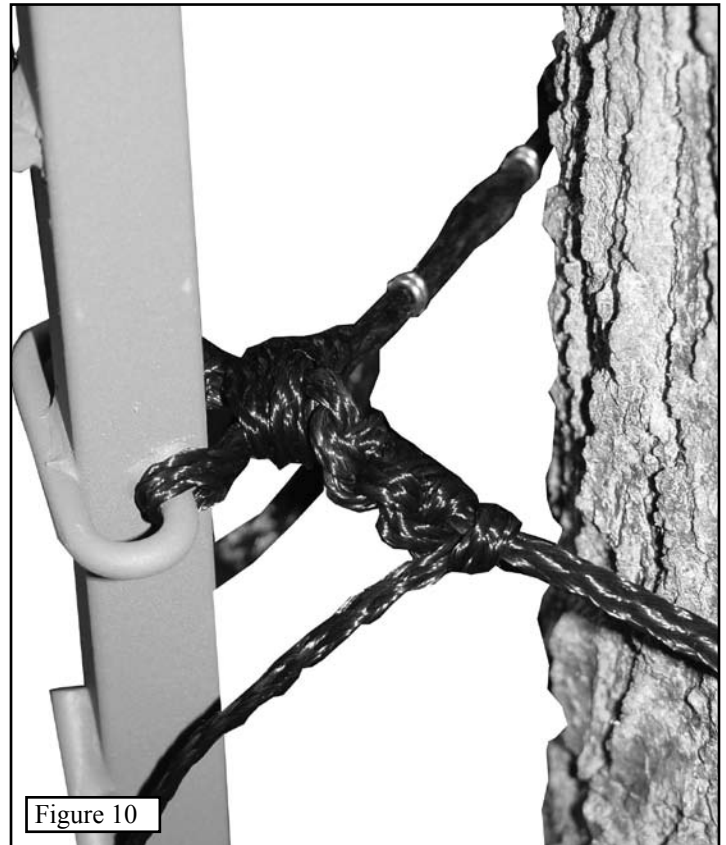

Figure 10
**Step 6.** Tie the loose end of rope back to itself using half hitch knots - three is sufficient. Always test each knot assembly before using! (See **Figure 10**)